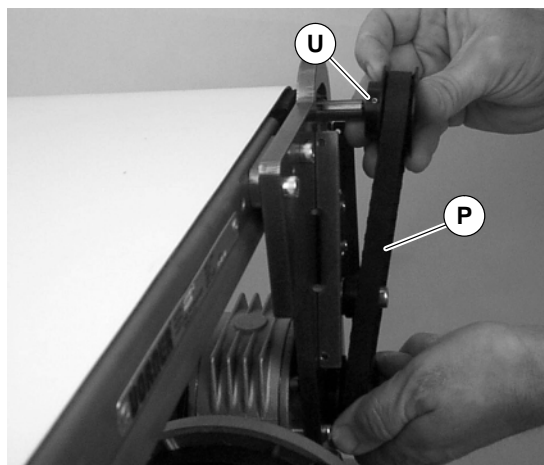

Figure 19
3. Remove timing belt (P of Figure 19).
NOTE: If timing belt does not slide over pulley flange, loosen driven pulley set screws (U of Figure 19) and remove pulley with belt (P). For re-installation, see steps 7 and 8 on page 9.